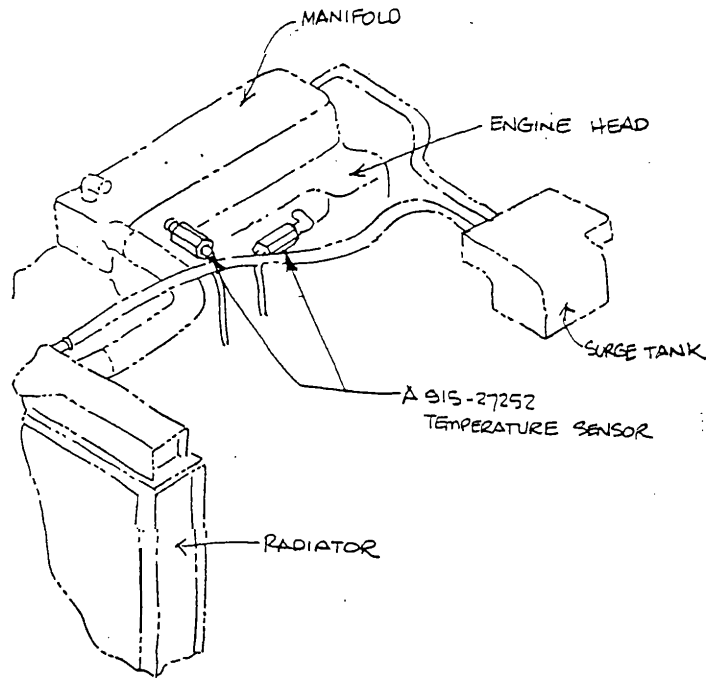

Figure 11. Coolant Temperature Sensor Locations.
23. ( ) The safety/cooling systems include two temperature sensors. One is placed in the engine coolant outlet. The other sensor is mounted in the exhaust manifold shown in Figure 11.